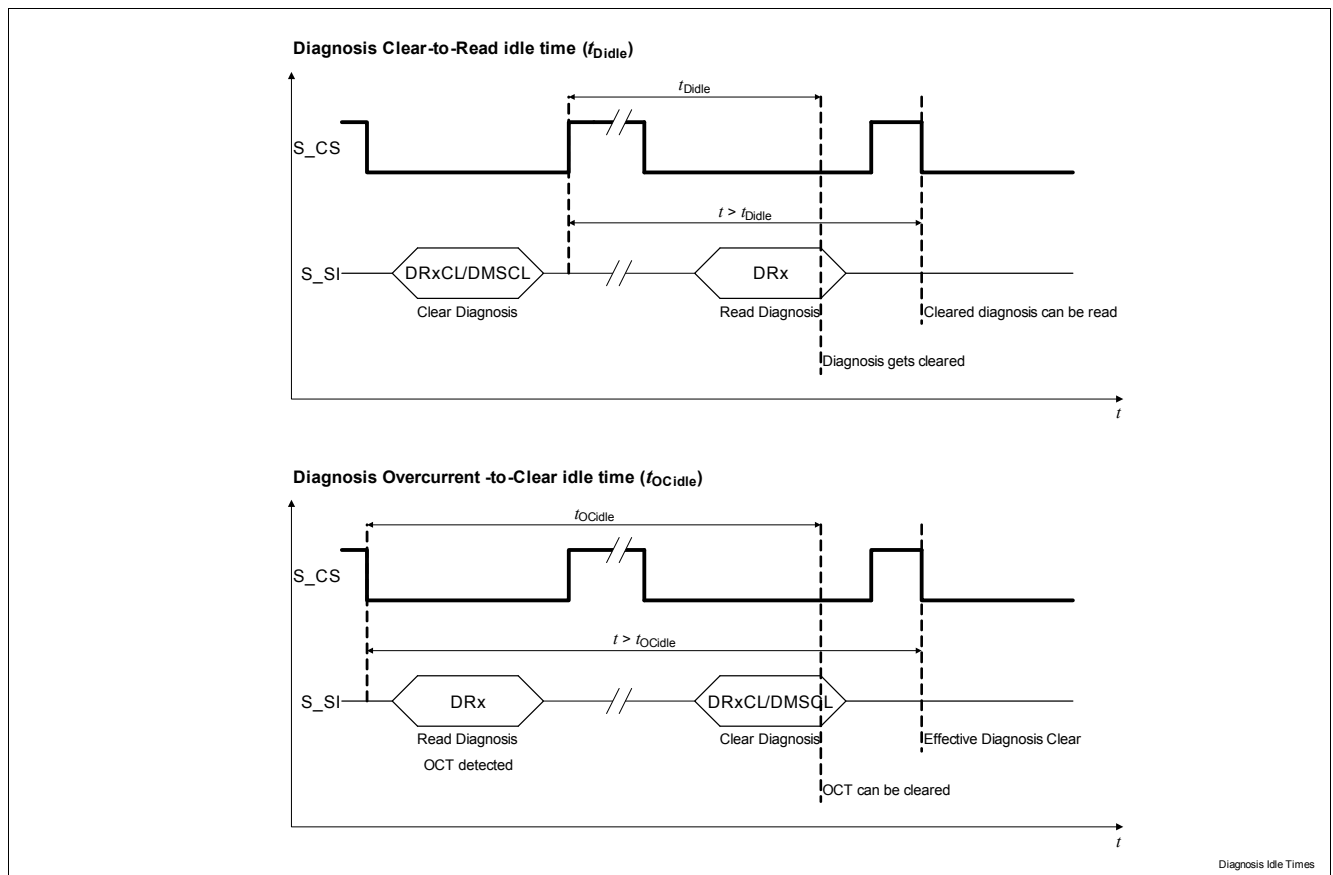

Figure 40 Diagnosis idle times
When issuing a Diagnosis Register Clear command (DRxCL or DMSCL), the idle time  $t_{\text{DIdle}}$  needs to elapse, from the CS low-to-high transition of the clear command, before the register content is effectively cleared (Figure 40); this time has to be taken into account when trying to read the Diagnosis register content after a clear, see Chapter 11.3 for  $t_{\text{DIdle}}$  definition.
After an overcurrent entry is stored in the diagnosis register (OC), the idle time  $t_{\text{OCIdle}}$  needs to elapse before a clear command can effectively clear the entry; if trying to clear the Diagnosis register after an OCT entry is read (Figure 40), this time has to be taken into account starting from the CS high-to-low transition of the previous read command, see Chapter 11.3 for  $t_{\text{OCIdle}}$  definition.